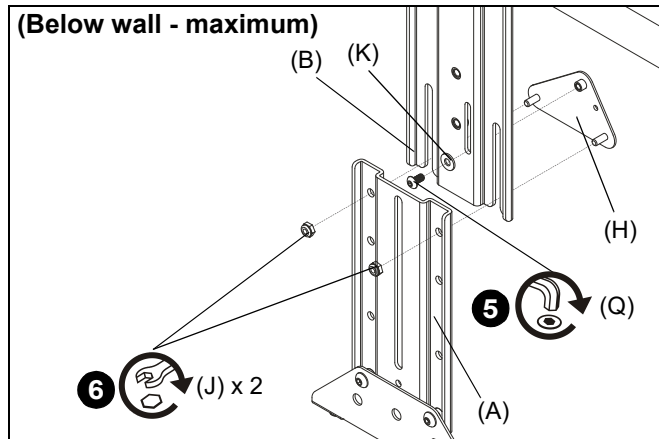

Figure 5
5. (For **maximum extension**) Use #10-32 x 3/8" button head cap screw (Q) and small washer (K) to secure adapter plate (A) to main bracket (B). (See Figure 5)
6. (For **maximum extension**) Use two #10-24 lock nuts (J) to secure upright bracket (A) to main bracket (B) and adapter plate (H). (See Figure 5)